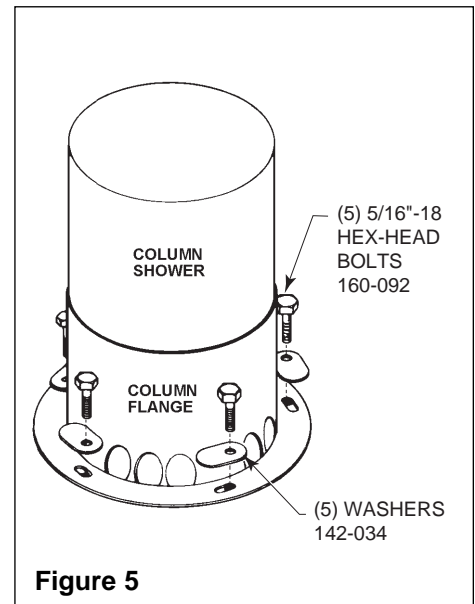

Figure 5
5. Bolt the shower to the drain with the five bolts (removed in procedure #1) and oval washers provided (see Figure 5).